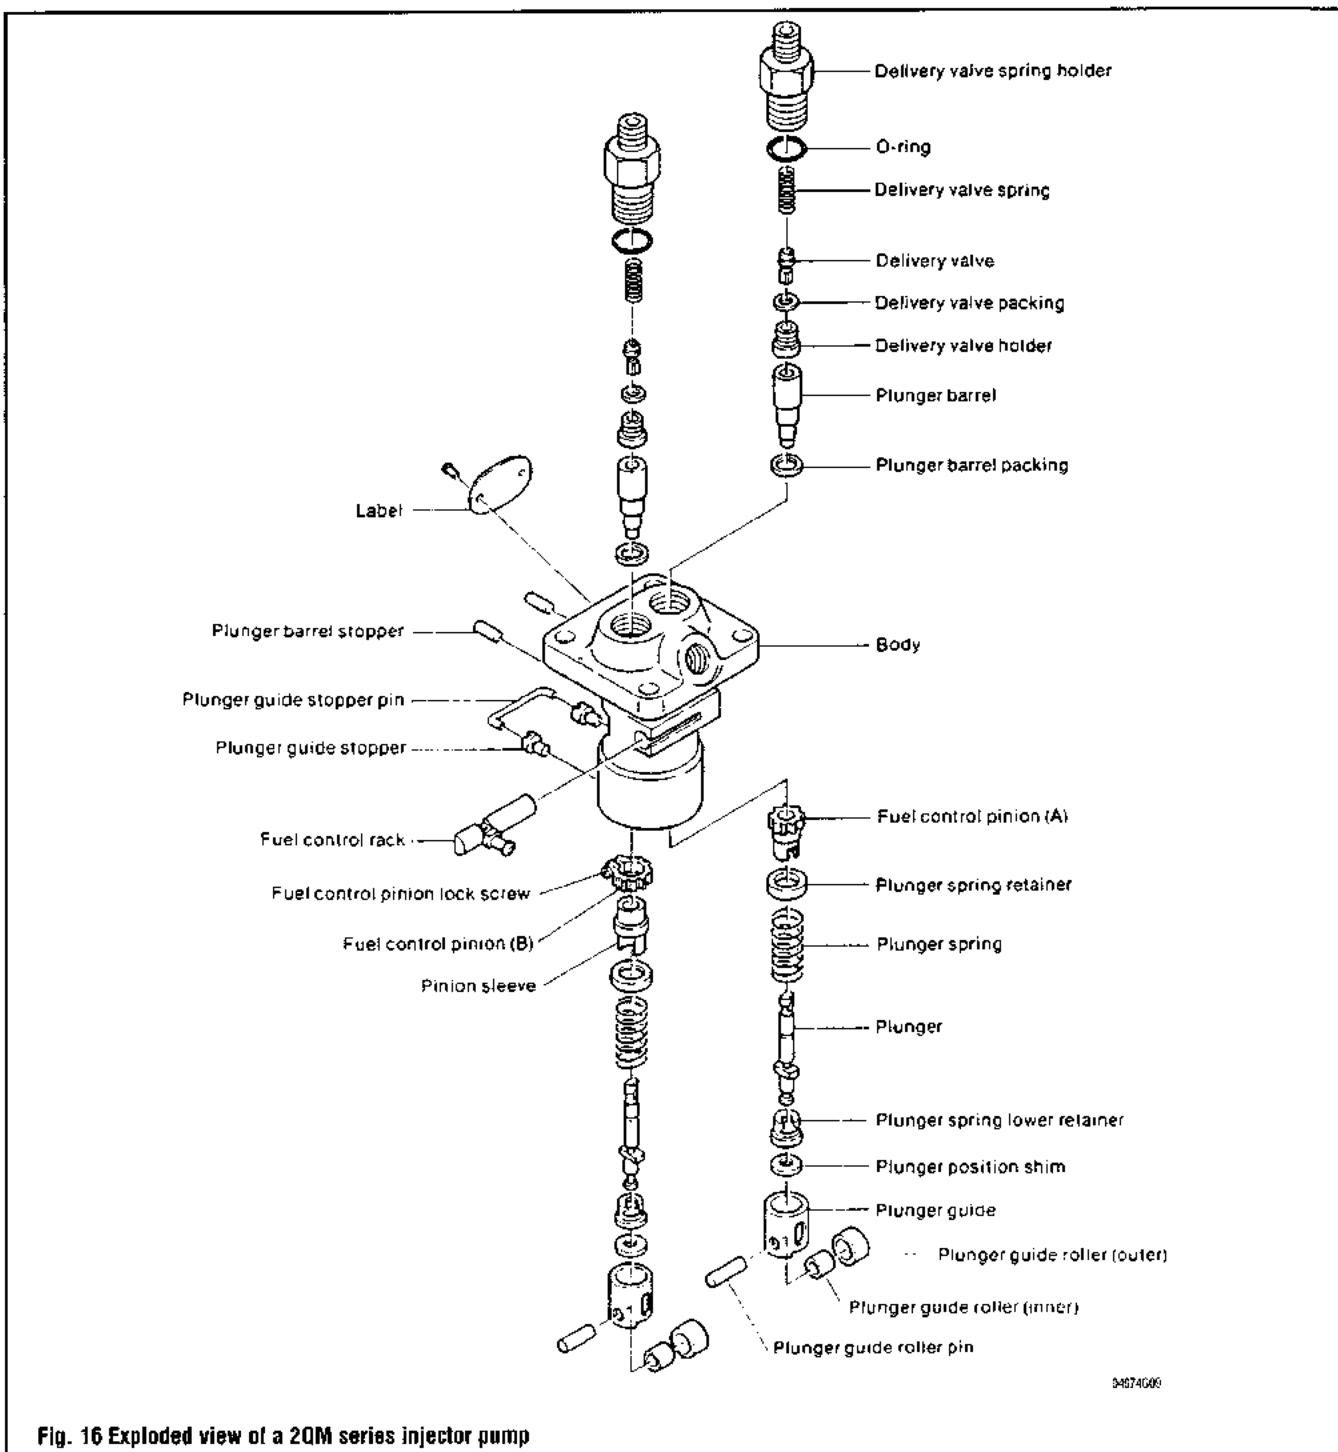

Fig. 16 Exploded view of a 2QM series injector pump
▶ See Figures 16, 17, 18, 19 and 20